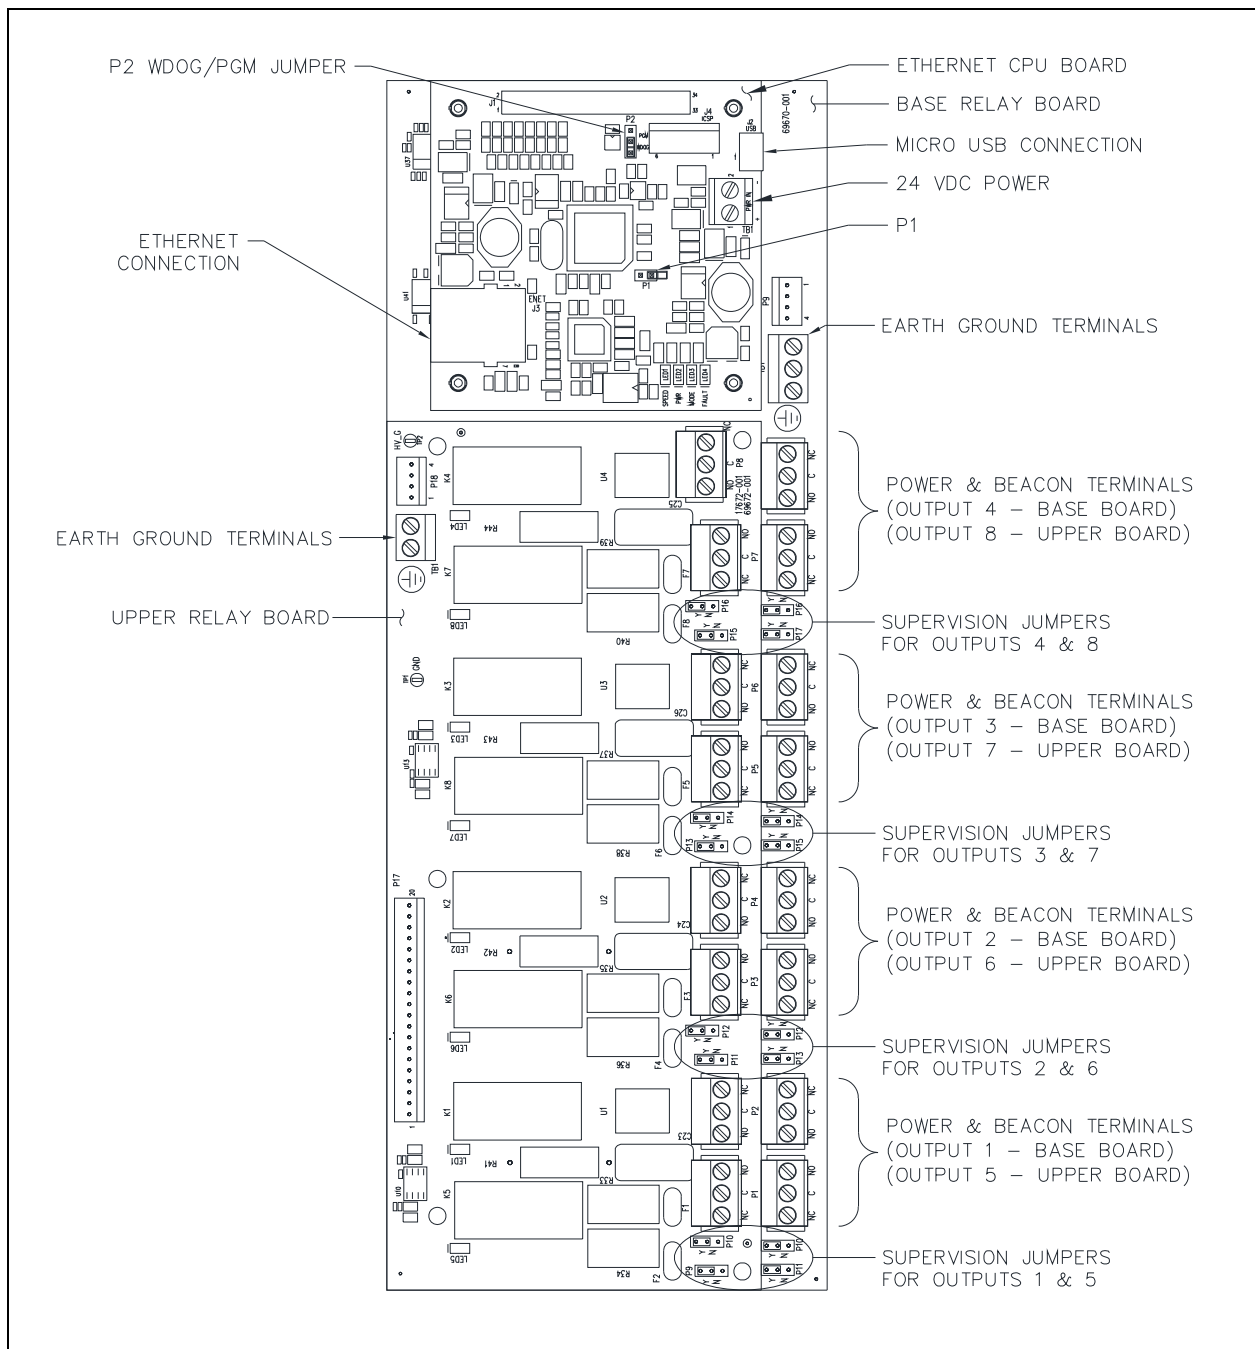

Figure 4. Strobe Monitor (IP) Jumper and Terminal Locations
Crimp properly sized ferrules on all conductors terminated to the terminal blocks to ensure proper termination. The ferrule size is dependent upon the conductor size used. Source the ferrules from any supplier (see Figure 4 for the strobe monitor (IP)'s terminal and control locations).
Each DPDT (double pole double throw) output contact has two terminal blocks for each power relay (i.e.—use terminal blocks P1 and P2 for output one, use terminal blocks P3 and P4 for output two, etc.) (see Figure 4). Use the relay-contact outputs in either supervised or unsupervised modes.